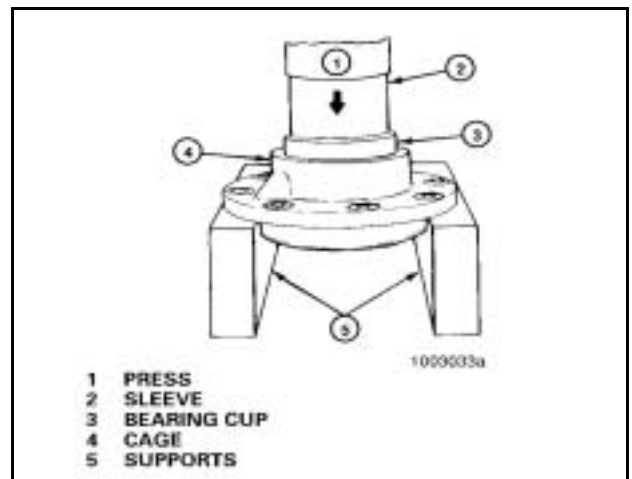

Figure 55
1. Place the bearing cage in a press. **Figure 55**.
3. Press the bearing cup into the bore of bearing cage until cup is flat against bottom of bore. Use a sleeve of the correct size to install bearing cup. **Figure 55.**